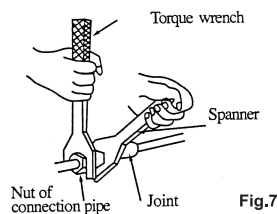

Fig.7
2. Align the joint counter of connecting pipe with the proper indoor and outdoor joint conic surfaces, tighten the connecting nut manually. Then, make it secure with a wrench as shown Fig.7, applying to above torque Table 1.